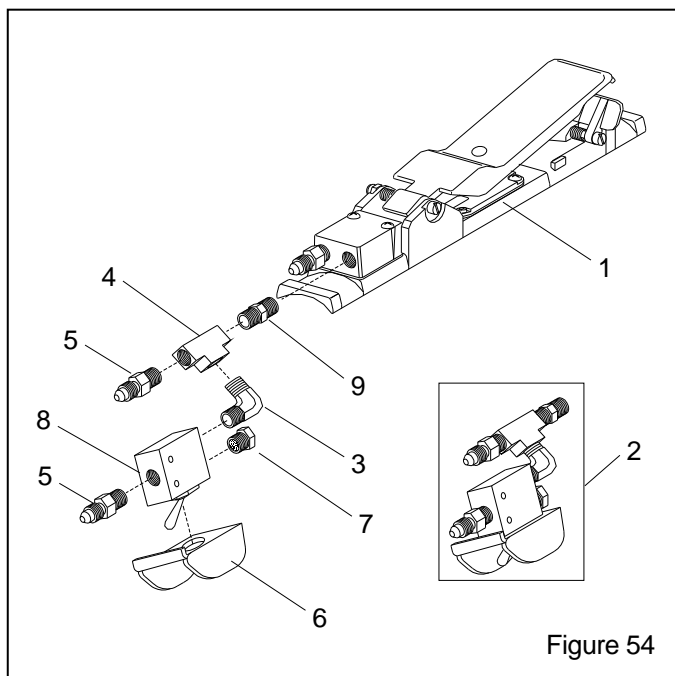

Figure 54
9.8 RLX Pneumatic Control Handle with ACS, Figure 54